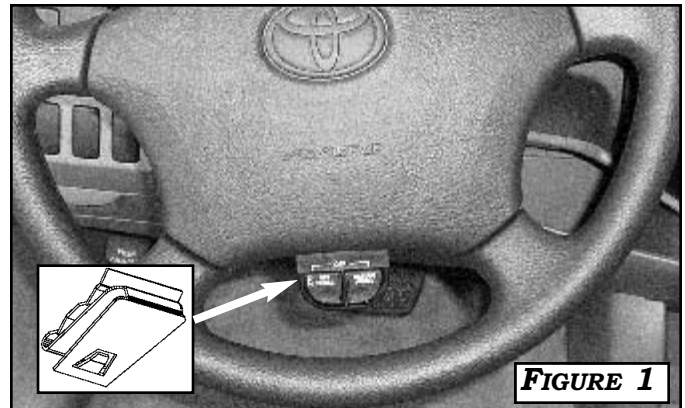

FIGURE 1
- 1) MOUNT **RF SWITCH BRACKET** TO BOTTOM OF STEERING SHROUD AND SLIDE **RF SWITCH** ONTO BRACKET AS ILLUSTRATED IN **FIGURE 1**.